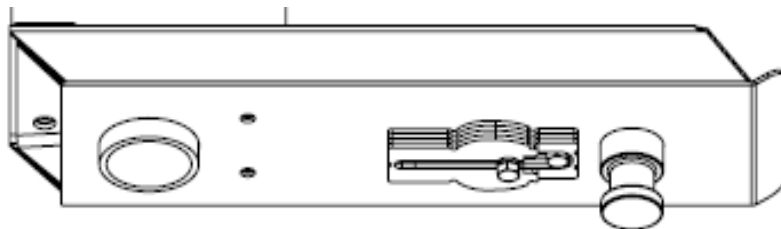

Figure 23
10. Torque (2) 5/8" Wedge Bolts to 150 ft-lbs (figure 23). A thin walled socket may be necessary.